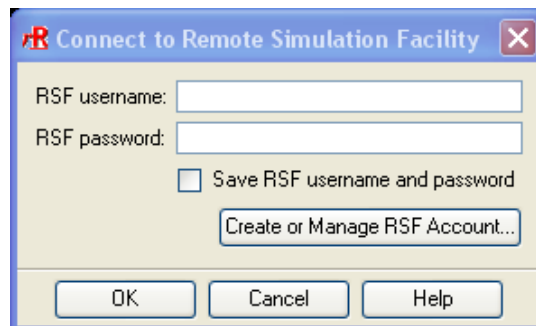

Figure 27.11.30: The Connect to Remote Simulation Facility panel
- (c) To start the solution on the RSF, click the **Start solution** button in the **Solve** panel (**Advanced** tab). This will close the **Solve** panel and launch the **Connect to Remote Simulation Facility** login prompt (Figure 27.11.30). The project file will be saved and the RSF connection startup will be reported to the **Message** window.
3. Logon to the RSF by entering your RSF username and RSF password in the Connect to Remote Simulation Facility panel (Figure 27.11.30).
- (g) To start the solution on the RSF, click the **Start Solution** button in the **Main** tab of the **RunRSF** panel (Figure 27.11.21). This will open the **Connect to Remote Simulation Facility** panel (Figure 27.11.30).